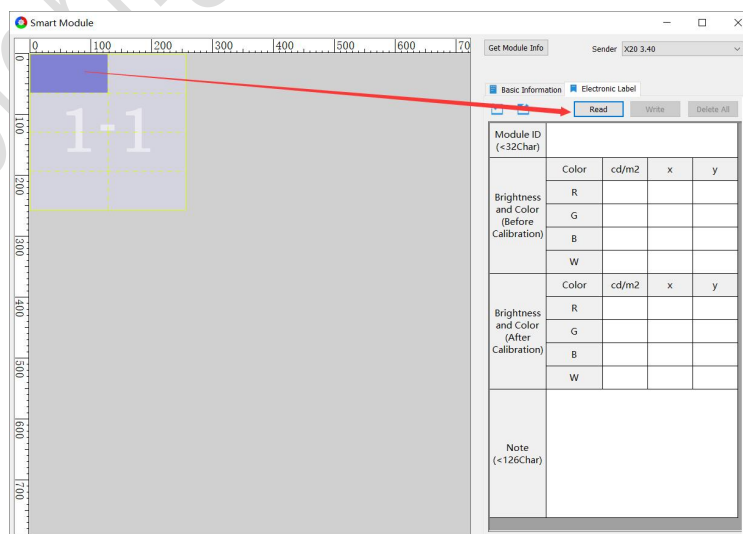

Fig 11.3.1 Read module label
Step 1: Select a module and click **Read**, as shown in Fig 11.3.1.